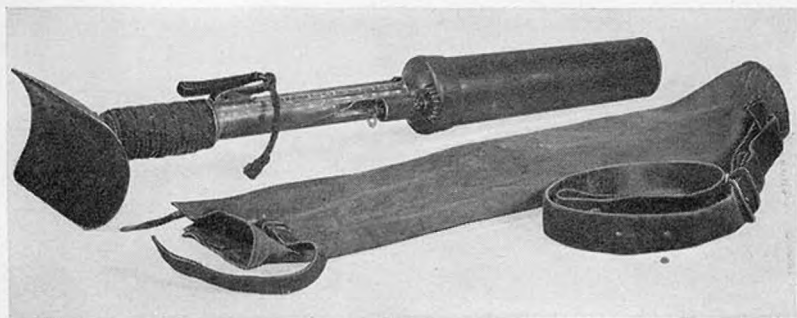

Figure 45.—Model 89 (1929) 50-mm grenade discharger, showing also canvas carrying case.
(1) *General.*—The Model 89 (1929) 50-mm grenade discharger is constructed of steel in the form of a pipe-like rifled barrel which is attached to a small base plate. The plate is curved so that it can be fitted over a medium-sized tree trunk or log (see fig. 45). The trigger housing (pedestal) is a tubular piece of metal with a lengthwise slot. Protruding through this slot is the trigger which cocks and fires in one operation. A spring sleeve covers the trigger housing at the base plate. A range-adjusting assembly is attached to the base cap of the barrel.
(2) Table of characteristics.—